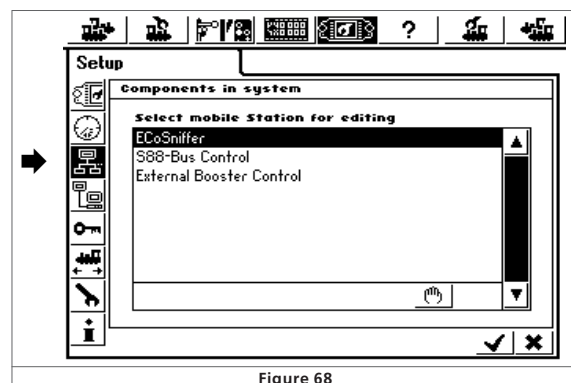

Figure 68
You find this menu via the set-up menu "Configuring Devices" as per Figure 68: Select "External Booster Control" from the list of devices and press "Edit".
- Select "s88-Bus-Control" from the list in "Devices on EcoSlink" (also see Figure 68).